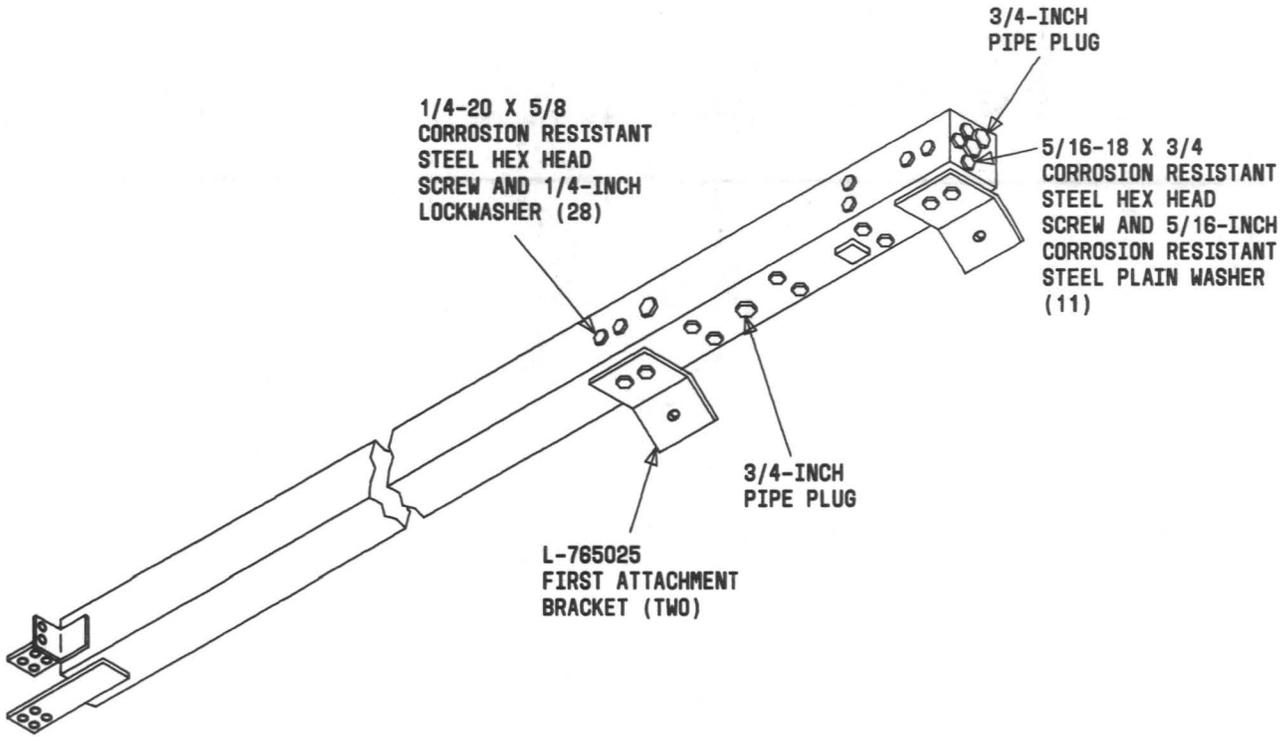
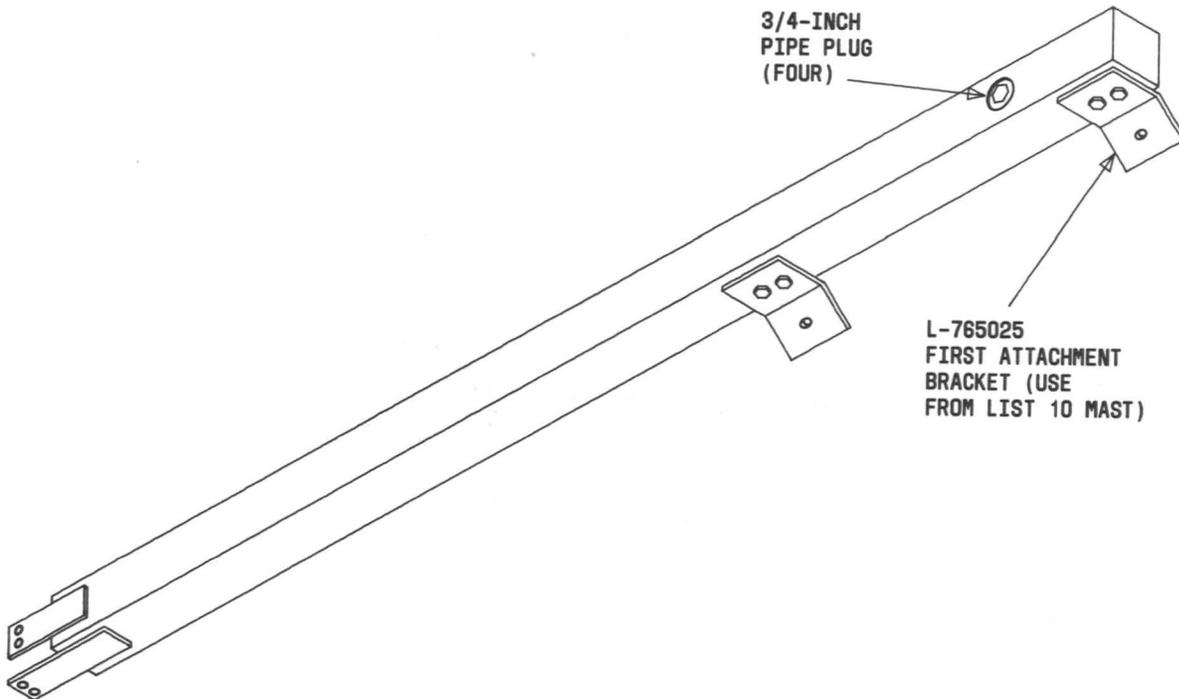

Fig. 8—KS-22677, List 10 Mast
Fig. 9—KS-22677, List 20 Mast Extension
2.12 A KS-22677, List 10 mast assembly is available for overhead wiring (Fig. 8). It extends 7-2/3 feet above the corral rail frame. Where it is necessary to run a drop wire across a street or parking lot, a KS-22677, List 20 mast extension is available to add another 7-2/3 feet to the List 10 mast (Fig. 9).